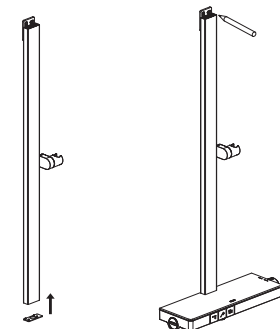

Figure 2
- a) Install the rubber seal into the bottom of the raiser rail (Figure 2).